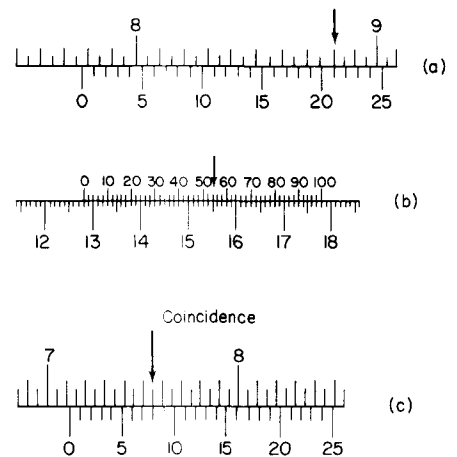

Fig. 4.21
3. State the readings on the verniers shown in Fig. 4.21.